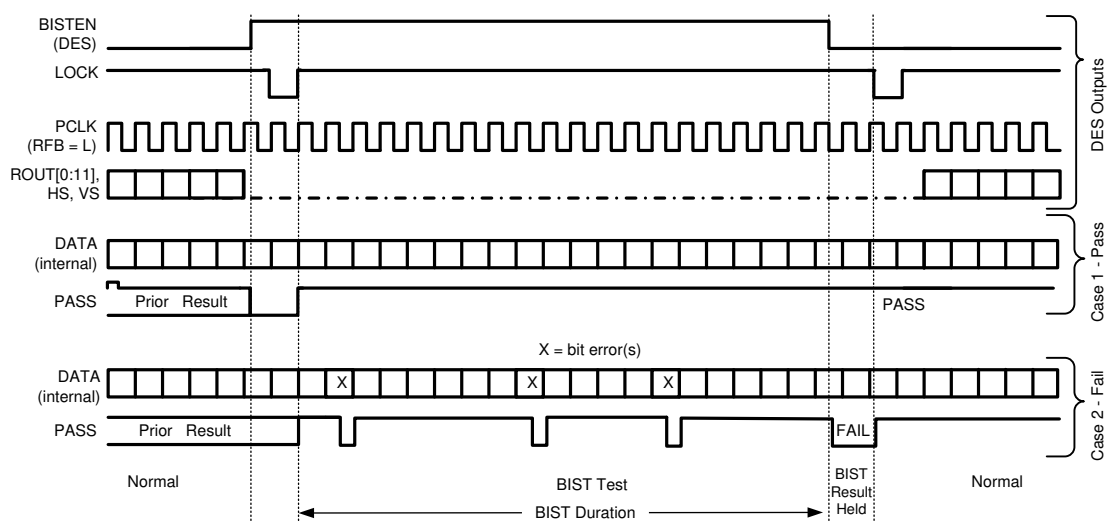

图 7-8. BIST Timing Diagram
Step 4. The link returns to normal operation after the deserializer BISTEN pin is low. 图 7-8 shows the waveform diagram of a typical BIST test for two cases. Case 1 is error free, and Case 2 shows one with multiple errors. In most cases, it is difficult to generate errors due to the robustness of the link (differential data transmission etc.), thus they may be introduced by greatly extending the cable length, faulting the interconnect, or by reducing signal condition enhancements (Rx equalization).